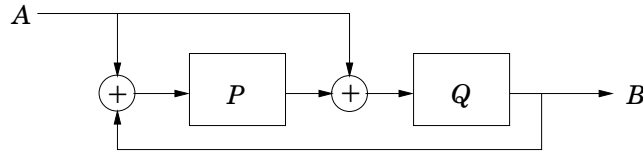

Figure 1 The system in Problem 2 with two block components.
2. Express the transfer function from A to B in Figure 1 in terms of the block transfer functions P and Q .